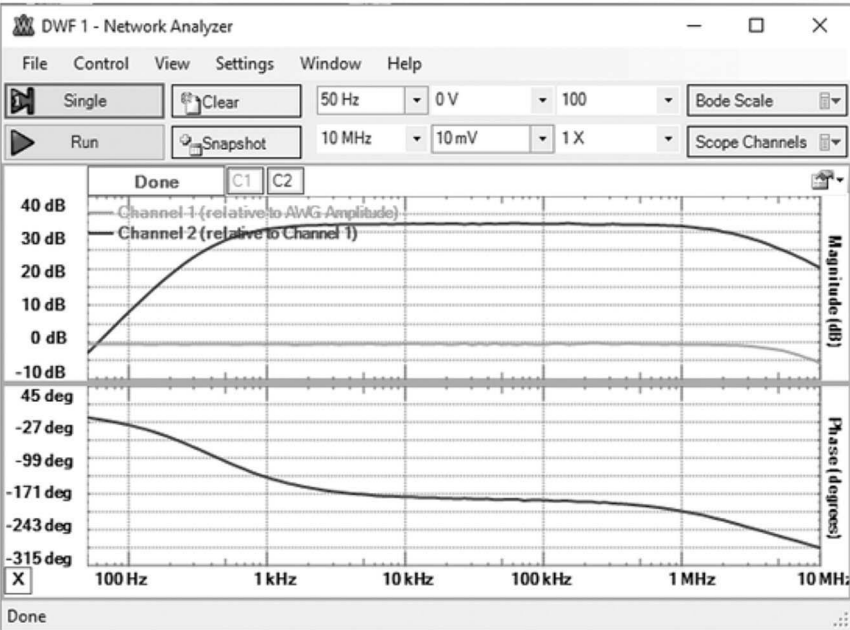

FIGURE 7.32
- Obtain a single sweep in frequency by clicking Single. This provides a Bode plot representation of the frequency response of the circuit. The Bode plot obtained is shown in Figure 7.32.
From Figure 7.32, the following measurements were obtained: